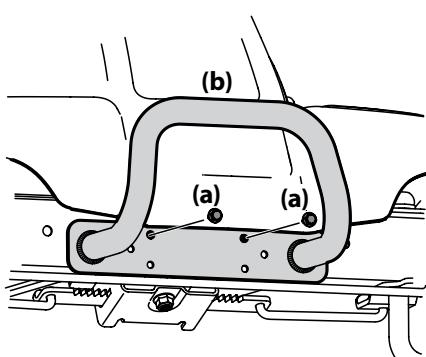

Figure 2-10
1. Remove the two screws (a) as shown in Figure 2-10.
2. Position the bumper (b) over the mounting holes and secure using the screws (a) removed in Step 1. See Figure 2-10.